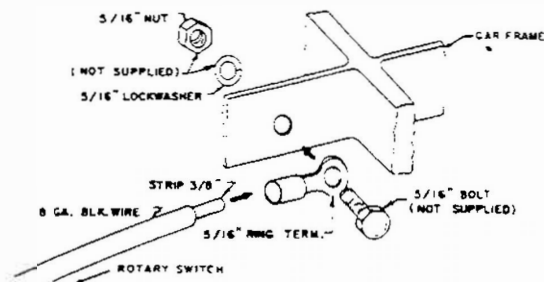

Figure 6
- 1 ea. - (3) Position Rotary Switch (#78101)
3. Attach the wire firmly to the frame using a 5/16" bolt, nut and lock-washer (not supplied) as shown in Figure 6.